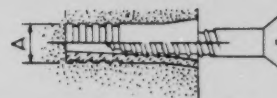

Figure 17-31. Lead Shield with Wood Screw
d) Lead shields are still available and are adequate for holding screws supporting glass holders and similar-type bathroom accessories. Figure 17-31 shows a lead shield and wood screw. This shield also requires a pre-drilled hole.